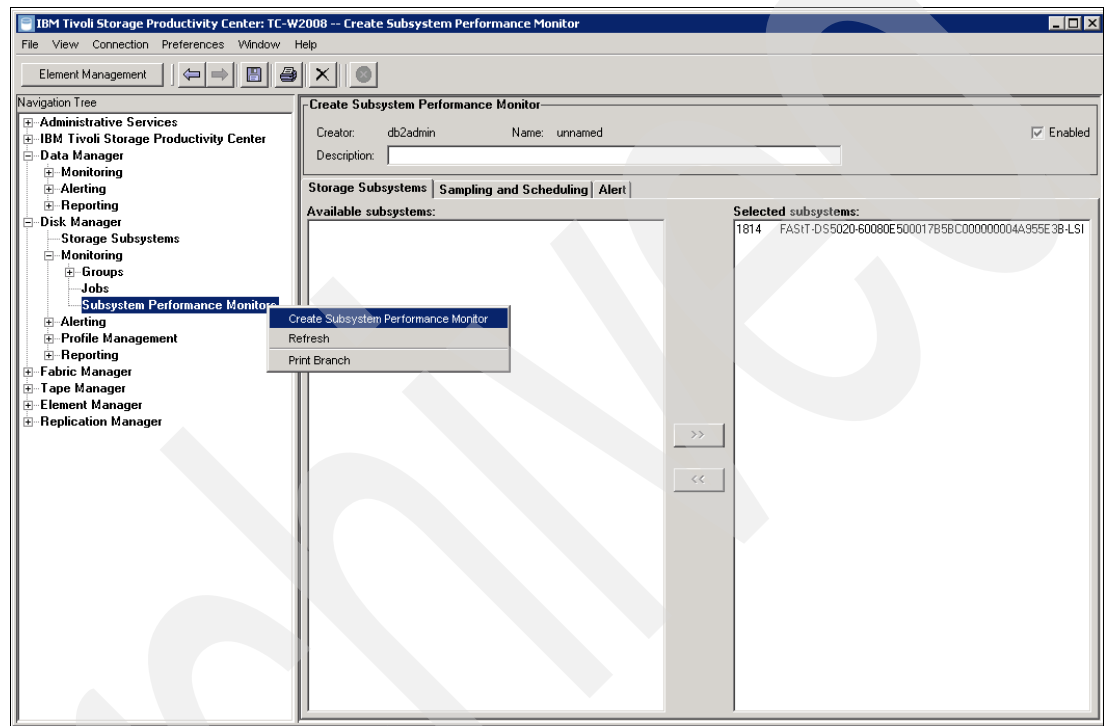

Figure 9-23 Create Performance Monitor job
1. Expand **Disk Manager** → **Monitoring**, then right-click **Subsystem Performance Monitor** and click **Create Subsystem Performance Monitor**. In the Available subsystems tab in the right pane, select the storage subsystem to be monitored and move it to the Selected Subsystem tab, as shown in Figure 9-23.